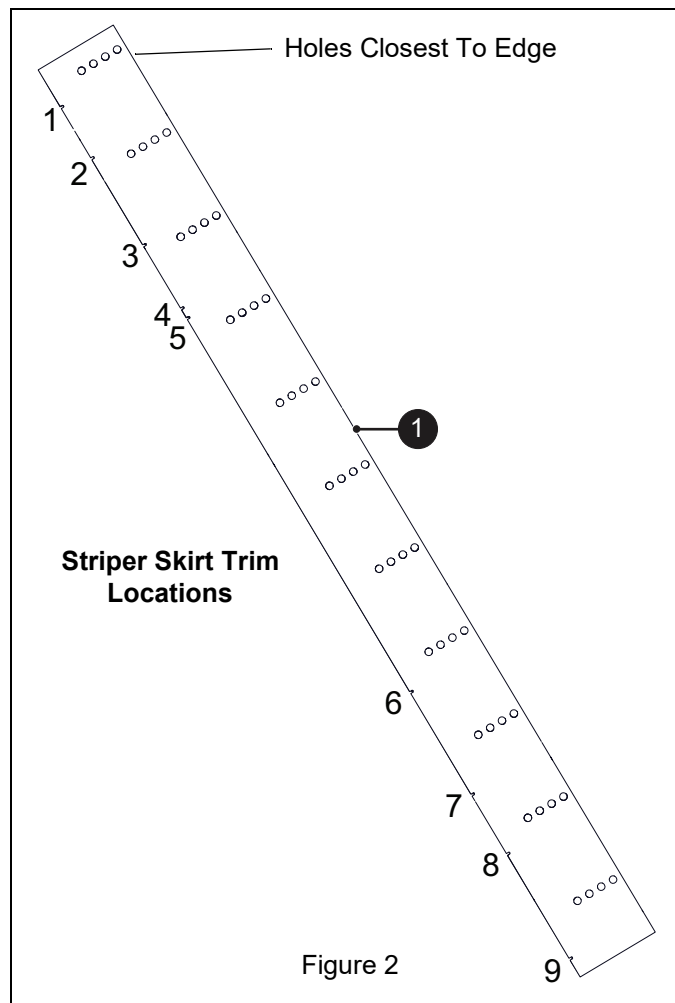

Figure 2
6. Locate cut locations on rubber striper skirt (item 1). Skirt will be trimmed at the appropriate location depending on deck size. See Figure 2.